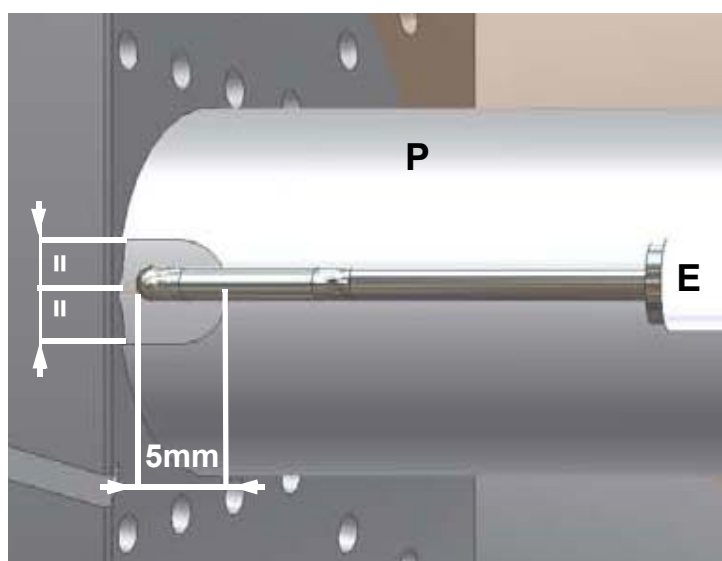

Fig. 18
- Examine and clean the detection photoelement, replace it if necessary (see page 34), in case of doubt, check the detection circuit, after the burner start-up (see Fig. 18-Fig. 19);
- 2 disconnect the electrode (E) cable (CE);
- 4 loose screw (B) that fasten the ignition electrode (E) to the burner pilot (P);
- 5 remove the electrode and replace it, referring to the values quoted on Fig. 18;